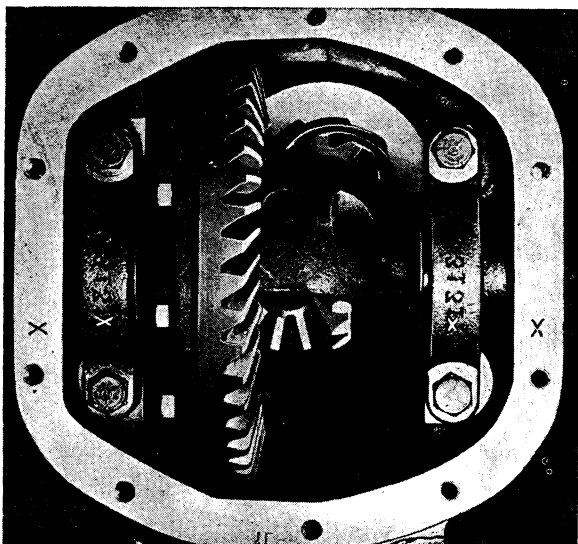

Fig. 4-135. Alignment marking on cap and carrier
5. Check the alignment markings on the cap and carrier, see Fig. 4-135. If there are no mark-